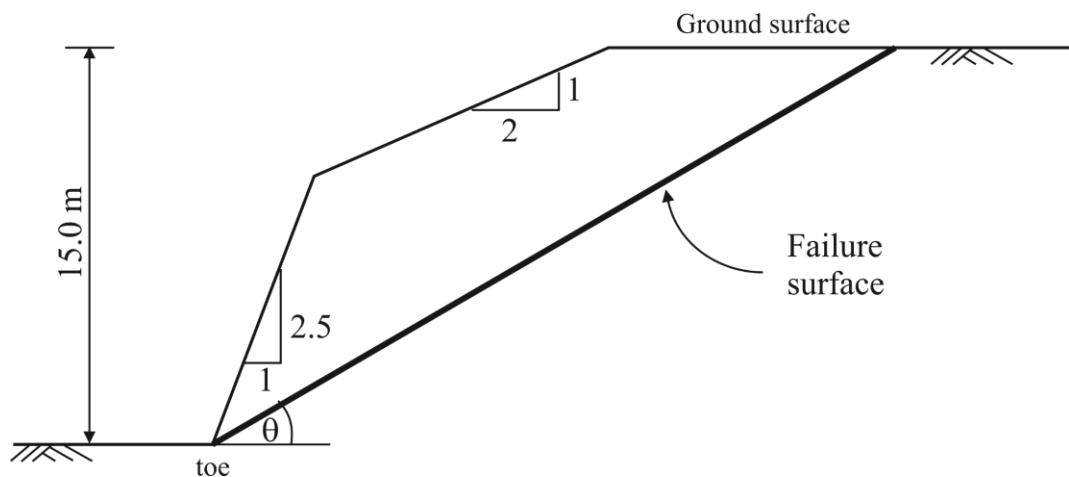

Figure Q4
4. A design for a road cutting should assess the stability of an excavated slope, with its geometry shown in Figure Q4. The 15 m high slope is shallower over the top one third of the slope height, with a gradient 1:2 (vertical to horizontal, V:H). It then becomes steeper, with a gradient 2.5:1 (V:H) all the way to the toe. The ground conditions comprise an over-consolidated stiff clay, which is characterised by an undrained shear strength, S_u , and a saturated bulk unit weight $\gamma = 18 \text{ kN/m}^3$.
In your solution, you should apply the Limit Equilibrium method of analysis and assume that the Tresca failure criterion is mobilised along the assumed planar failure surface depicted in Figure Q4.
- Resolve the forces identified in (a) into the directions parallel and normal to the assumed failure surface and write the appropriate force equilibrium equation for each of the two directions. Calculate the critical value of the angle θ shown in Figure Q4 and of the magnitude of S_u in the clay that would satisfy the stability requirement of this slope for the assumed failure surface.